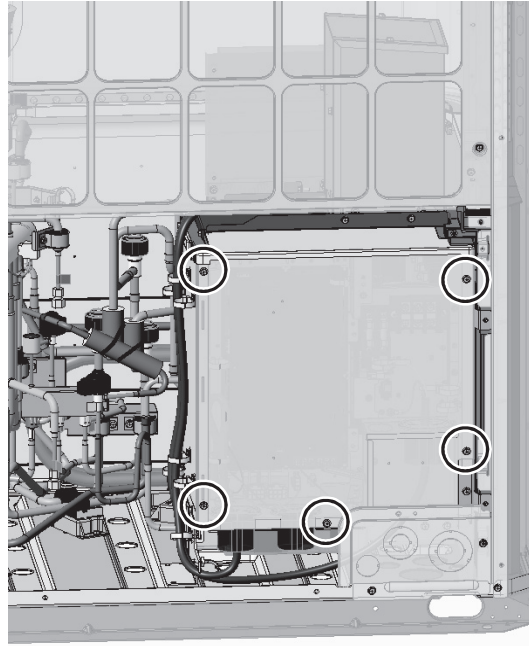

Figure 1
- (1) Ensure there is adequate work space. (See 8-13-1.)
- (2) Remove the control box cover. (5 screws as shown in Fig. 1.)